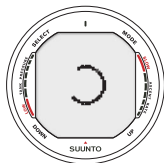

Fig. 4.7. Entering Compass Calibration
1. Enter Calibration mode (Fig 4.7)